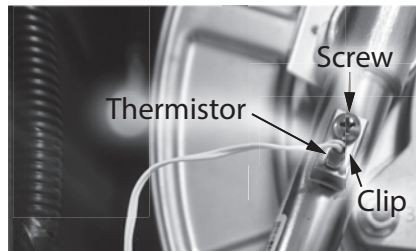

Figure 194 - Disconnect thermistor from HEX outlet tube
- 24** Locate the screw securing the outlet thermistor and clip to HEX outlet tube as shown in Figure 194. Remove screw and clip and place aside in a safe place for reinstallation. Disconnect thermistor and route wire to the side.